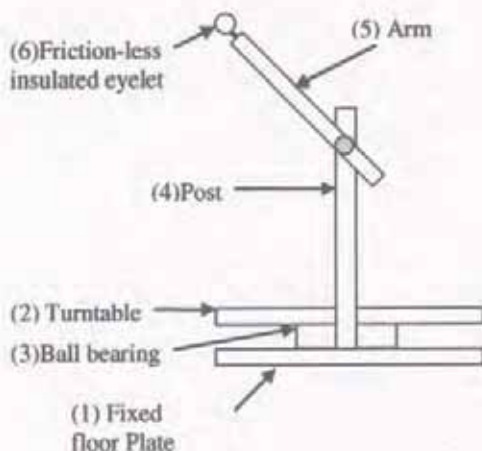

Figure 1
The drum must be set on a turntable which permits it to turn freely, allowing the wire to be paid off without tangling. Turntables can be purchased from a manufacturer or made by the user. (See Figure 1) A turntable consists of a stationary plate on the floor (1), a rotating plate (turntable) (2) centered on a large bearing (3), and a post (4) and arm(s) (5) for the eyelet(s) (6). At least one low friction insulated eyelet is required to guide the electrode. This is to help guide the wire out of the drum and prevent tangles or accidental grounding, which can cause personal harm and/or damage to the equipment (See Figure 1 below for labeled illustration.)